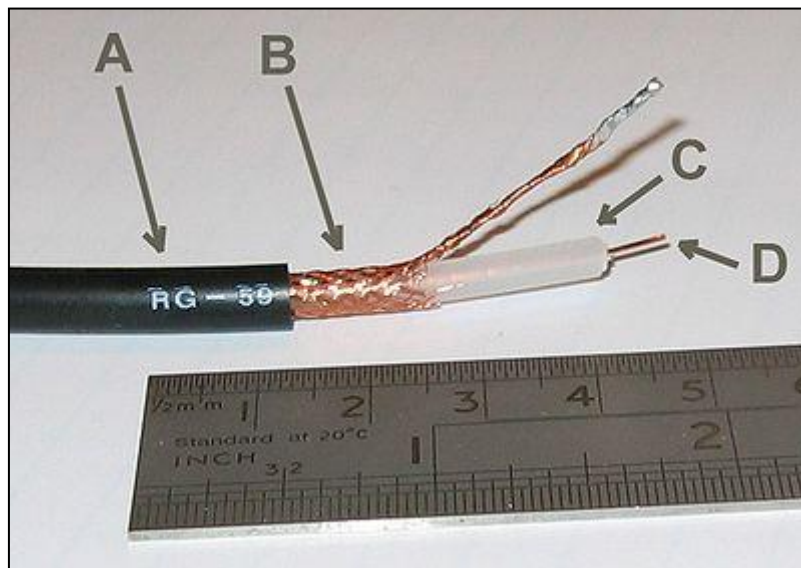

Figure 19. Coaxial cable: internal details
- If the problem persists, unplug the Backshell, use a screwdriver to remove the lids and check if the Central Core (D in Figure 19) and the metallic shield (B in Figure 19) of the coaxial cable are connected to the first and fourth pins inside the Backshell. The pins are numbered from top to bottom, with the “WARNING” label of the Backshell on the right side. Make sure that the Central Core and the metallic shield are connected (through the Backshell) to the “High” and “Low” output for both SMU channel. The output type of the SMU can be read directly on their front panels.